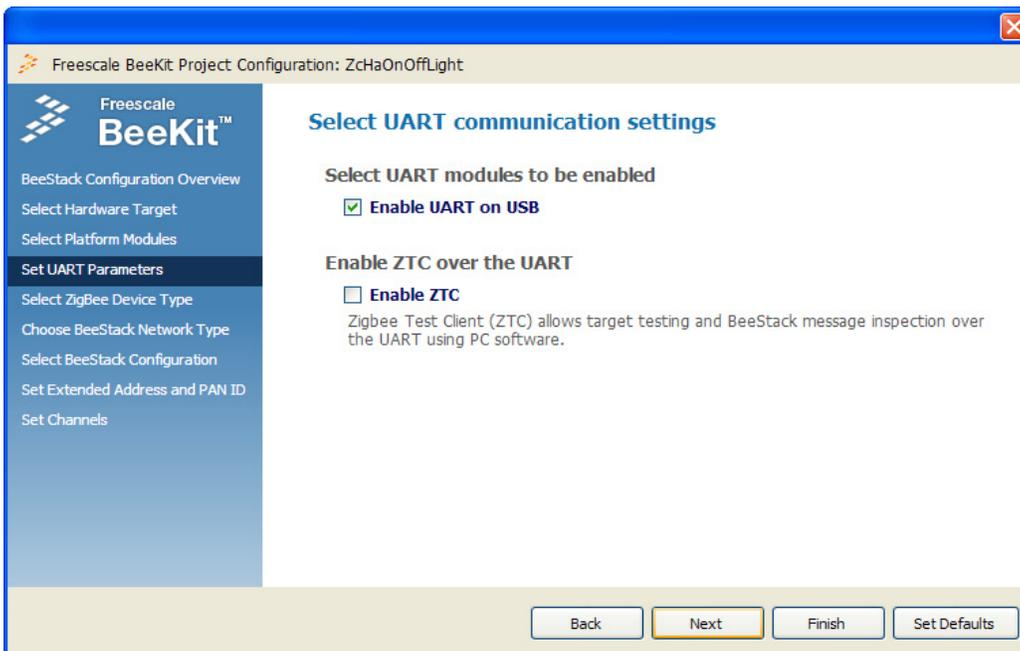

Figure 3-7. UART Parameters Page
4. Leave the default platform modules settings unchanged. LEDs and Keyboard modules on the board will be enabled. Click Next to go to the UART Parameters page shown in Figure 3-7.